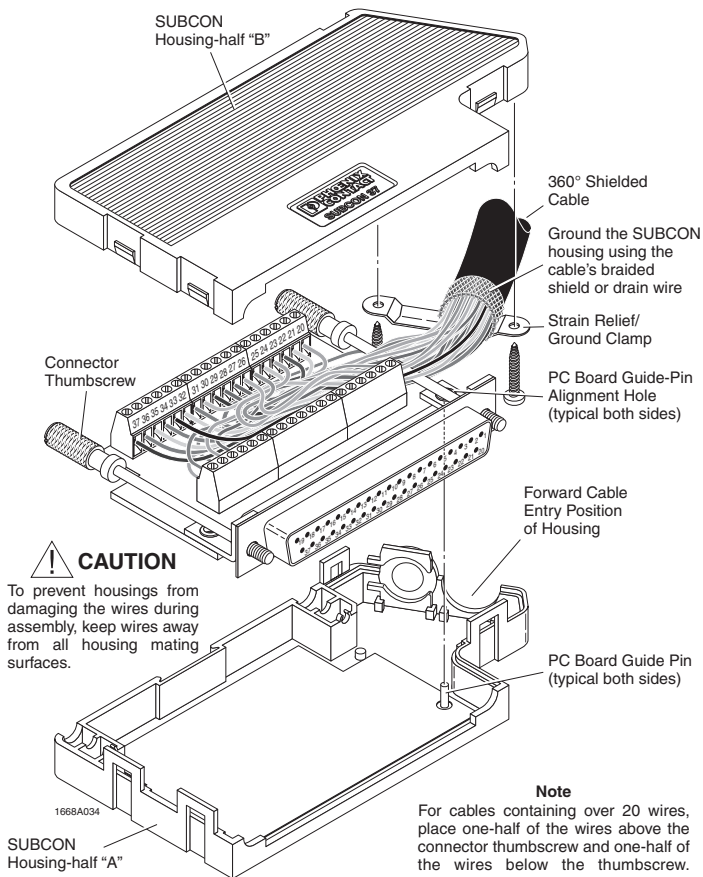

Figure 11. Assembling Connector for Right-side Cable Entry
1. Place the printed circuit board onto the PC board guide pins of housing-half "A" (see Figure 11).
3. Terminate conductors using the guidelines in Figure 11. For cable containing over 20 conductors, we also recommend installing one of the connector thumbscrews after about one-half of the conductors have been terminated.